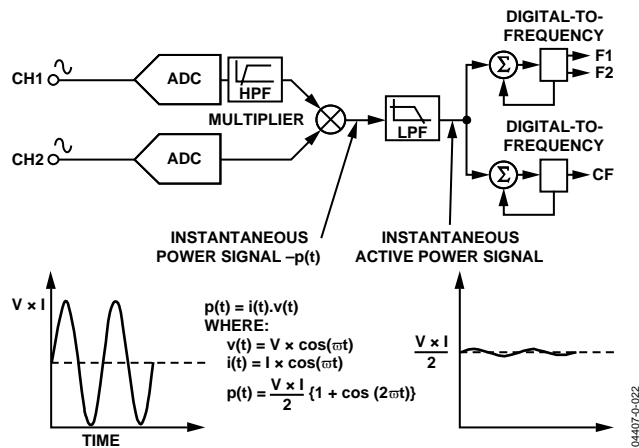

Figure 20. Signal Processing Block Diagram
The active power calculation is derived from the instantaneous power signal. The instantaneous power signal is generated by a direct multiplication of the current and voltage signals. To extract the active power component (dc component), the instantaneous power signal is low-pass filtered. Figure 20 illustrates the instantaneous active power signal and shows how the active power information can be extracted by low-pass filtering the instantaneous power signal. This scheme correctly calculates active power for nonsinusoidal current and voltage waveforms at all power factors. All signal processing is carried out in the digital domain for superior stability over temperature and time.
The pulse output calibration frequency (CF) is intended for use during calibration. The output pulse rate on CF can be up to 2048 times the pulse rate on F1 and F2. The lower the F₁₋₄ frequency selected, the higher the CF scaling. Table 6 shows how the two frequencies are related, depending on the states of the logic inputs S0, S1, and SCF. Because of its relatively high pulse rate, the frequency at this logic output is proportional to the instantaneous active power. As with F1 and F2, the frequency is derived from the output of the low-pass filter after multiplication. However, because the output frequency is high, this active power information is accumulated over a much shorter time. Therefore, less averaging is carried out in the digital-to-frequency conversion. With much less averaging of the active power signal, the CF output is much more responsive to power fluctuations (see Figure 20).